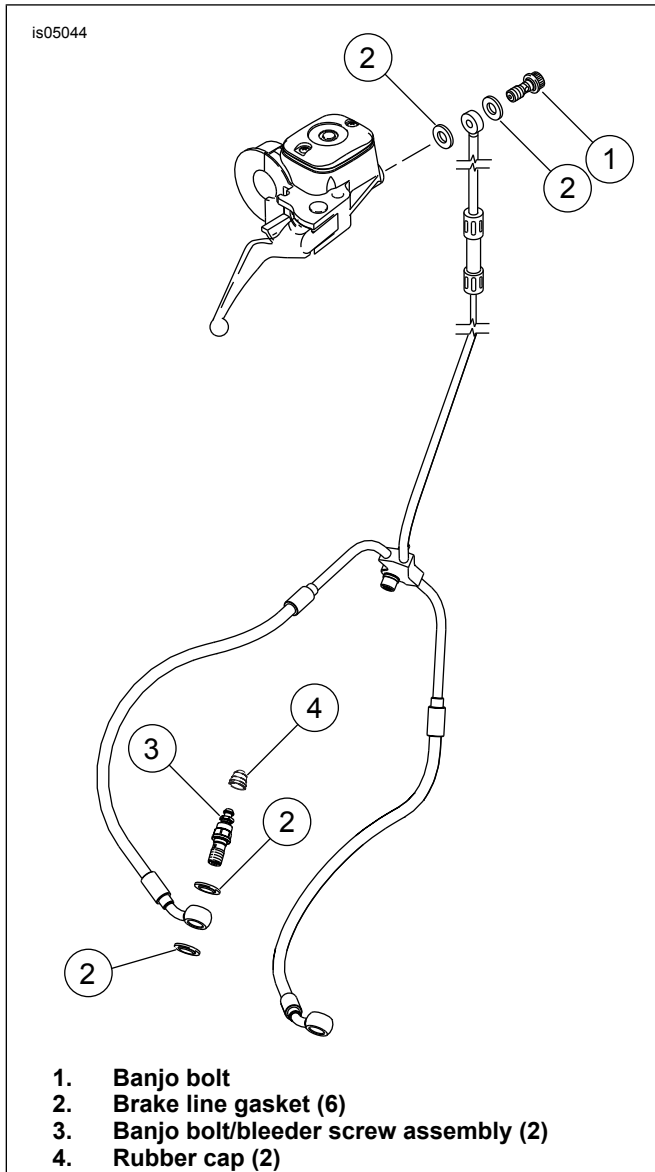

Figure 1. Front Brake Line and Master Cylinder
1. See Figure 1. Remove rubber cap (4).
4. Install **new** gaskets (2), brake line and banjo bolt/bleeder screw (3) onto the caliper in the order shown in Figure 1. Tighten banjo bolt to 17–20 N·m (12.5–14.5 ft·lbs).
6. Remove the banjo bolt (1) and gaskets (2) to detach front brake line from master cylinder. Discard gaskets and banjo bolt.
8. Install **new** gaskets (2), brake line and banjo bolt (1) onto the reservoir in the order shown in Figure 1. Tighten banjo bolt to 17–20 N·m (12.5–14.5 ft-lbs).